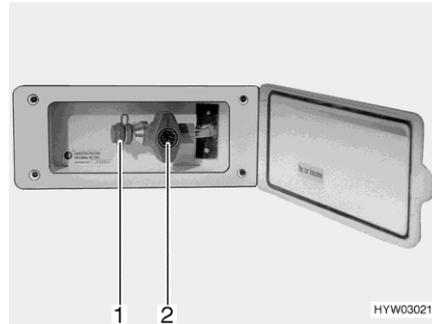

Fig. 169 External gas connection
- Connect the external gas device to the connection point (Fig. 169,1).
- Open the gas isolator tap (Fig. 169,2).